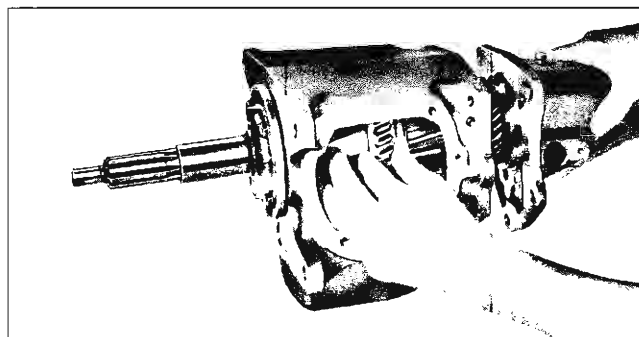

Fig. 7-16 Removal of Mainshaft
4. Carefully pull extension and mainshaft assembly out of transmission case, leaving second and third speed clutch assembly and first and reverse sliding gear in case (Fig. 7-16). Do not force mainshaft. Slowly rotate mainshaft and second speed gear to obtain alignment of synchronizing clutch teeth and splines on mainshaft.